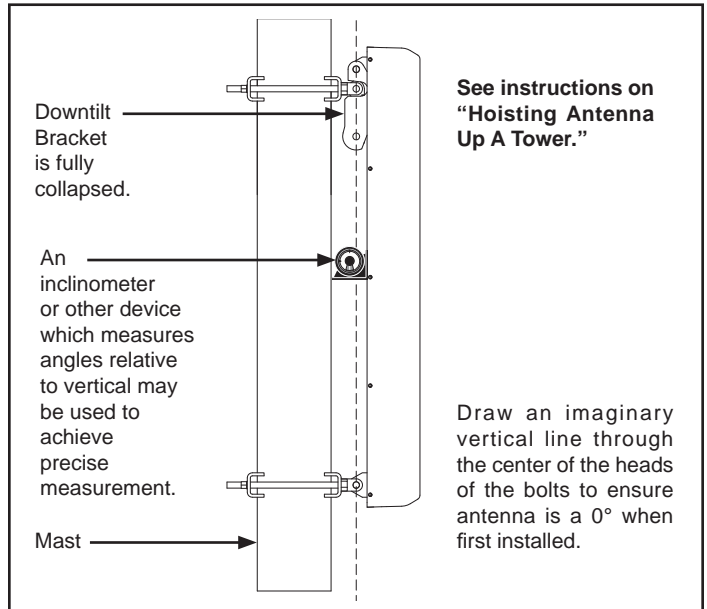

Figure 5. Ensure Antenna is Fully Collapsed at 0° When Attaching the Antenna to the Tower.
- Align antenna to vertical, as shown in Figure 5.
- Use an inclinometer or other device which measures angles relative to vertical for achieving precise downtilt measurements (Figure 5).